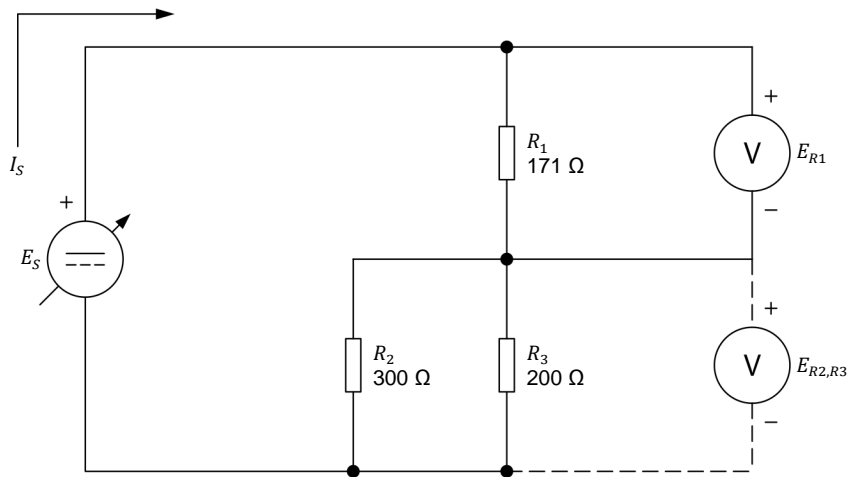

Figure 32. Circuit made of resistors connected in series-parallel.
24. Set up the circuit shown in Figure 32. To obtain the resistor arrangement of Figure 32, make the necessary connections and switch settings on the **Resistive Load** module.
25. Calculate the equivalent resistance  $R_{Eq.}$  of the resistors in Figure 32. Then, calculate the source current  $I_S$  based on the equivalent resistance  $R_{Eq.}$  and the source voltage  $E_S$  of 50 V.
Disconnect the voltmeter from resistor  $R_1$  and connect it across parallel resistors  $R_2$  and  $R_3$ , as Figure 32 shows. Record the voltage  $E_{R2,R3}$  indicated by the voltmeter in Table 4.
2. Consider the circuit of Figure 32. If the voltage of the source  $E_S$  doubles, what happens to the current flowing through each resistor and to voltages  $E_{R1}$  and  $E_{R2,R3}$ ?
3. If the value of resistor  $R_3$  in the circuit of Figure 32 is reduced by half, does the current through resistor  $R_2$  increase or decrease?